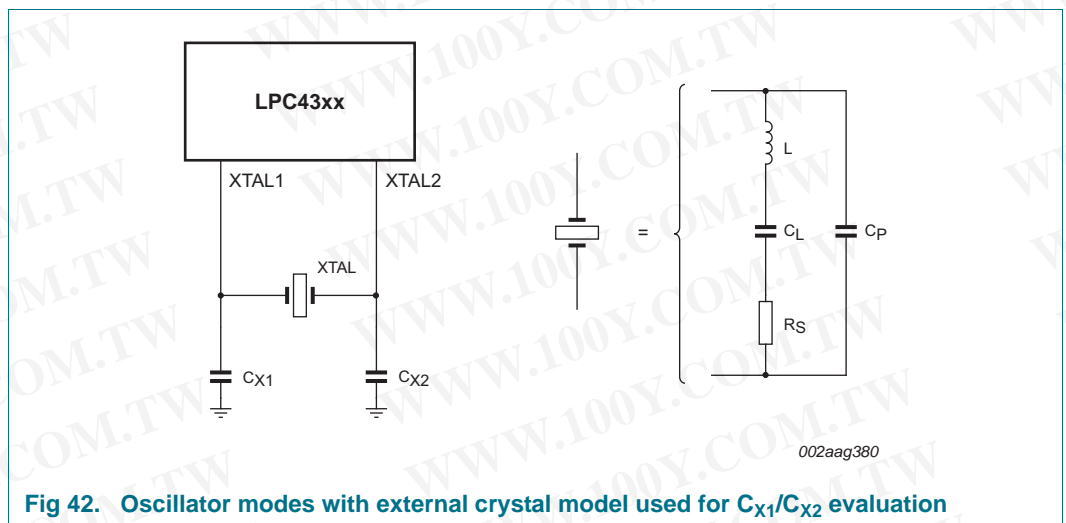

Fig 42. Oscillator modes with external crystal model used for C_{X1}/C_{X2} evaluation
- External components and models used in oscillation mode are shown in Figure 42, and in Table 40 and Table 41. Since the feedback resistance is integrated on chip, only a crystal and the capacitances C_{X1} and C_{X2} need to be connected externally in case of fundamental mode oscillation (L , C_L and R_s represent the fundamental frequency). Capacitance C_P in Figure 42 represents the parallel package capacitance and must not be larger than 7 pF. Parameters F_c , C_L , R_s and C_P are supplied by the crystal manufacturer.